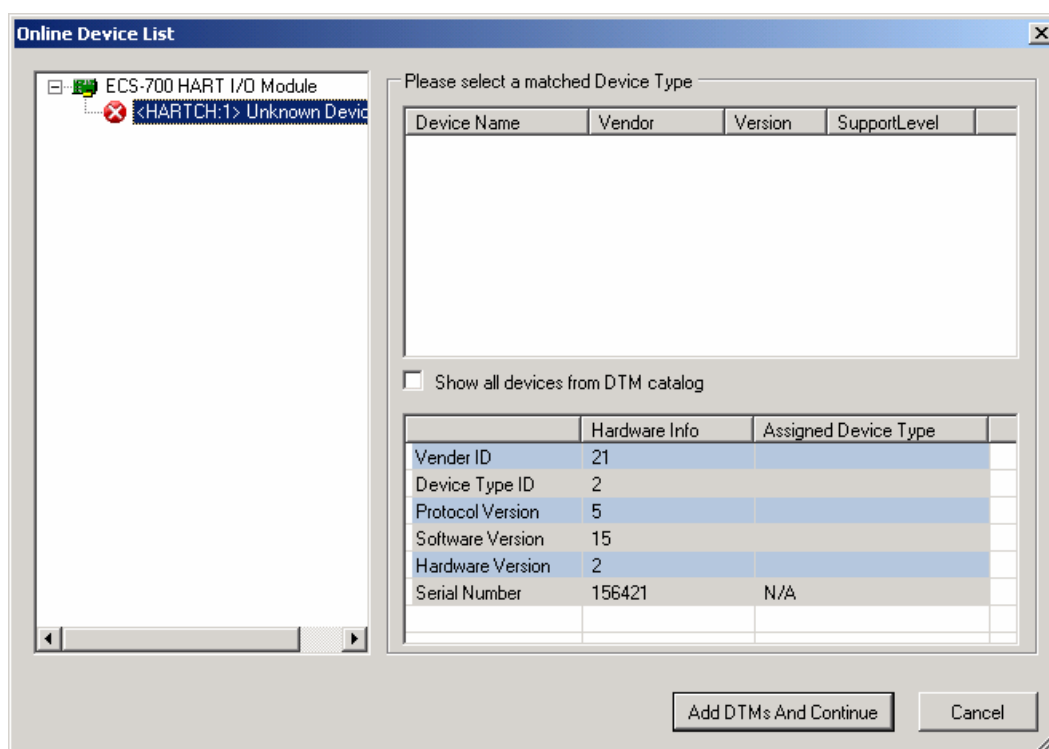

Figure 4-55 Has no matched DTM device
In Figure 4-55, the device has no matched device DTM and the structure tree shows that “Unknown Device Type”.
- If the interface shown in Figure 4-55 still displays after installing new device DTM, select “Show All Device Types in DTM Catalog” in interface and then select the DTM type to be installed.